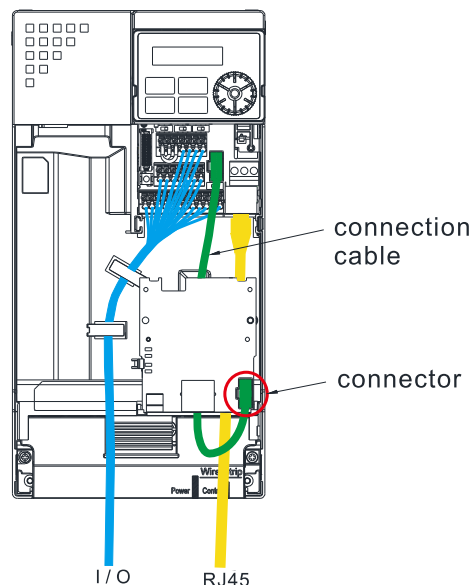

Figure 8-36
5. Assembling connection cables: Connect the connector at the other end of the connection cable to the connector of option cards, as shown in the Figure 8-36.